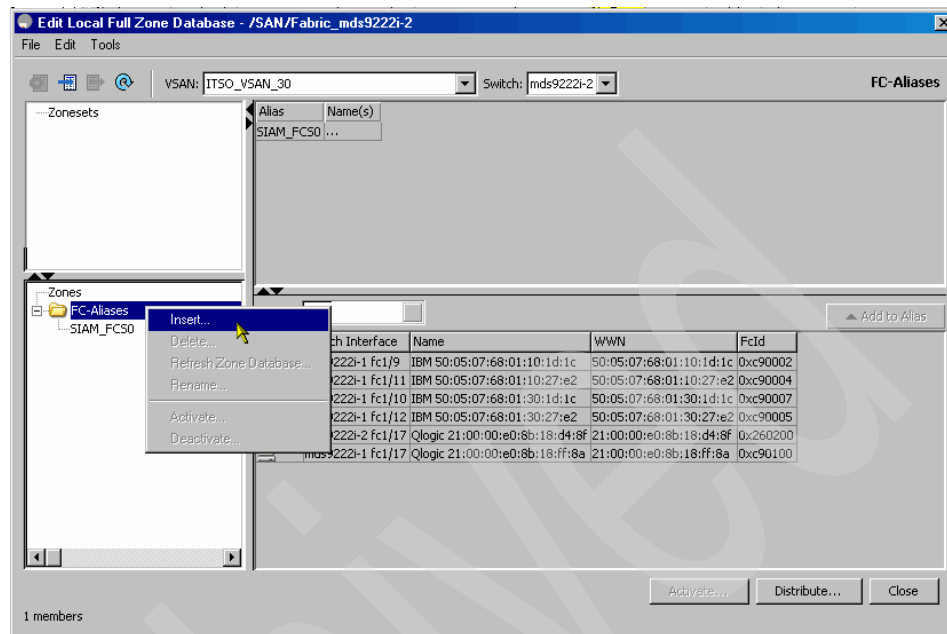

Figure 6-49 Clicking insert
4. Click **Insert** to create a new FC Alias, as shown in Figure 6-49.